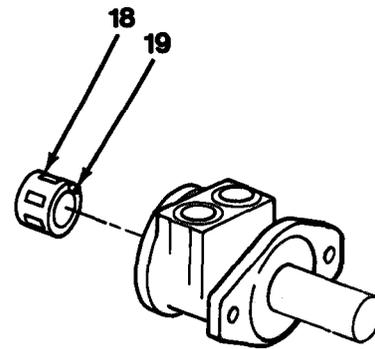

Figure 13-5
7. Remove commutator (18) by inserting two fingers into center cavity and lifting. Remove drive pin (19, Figure 13-5) from commutator (18) only if it must be replaced.